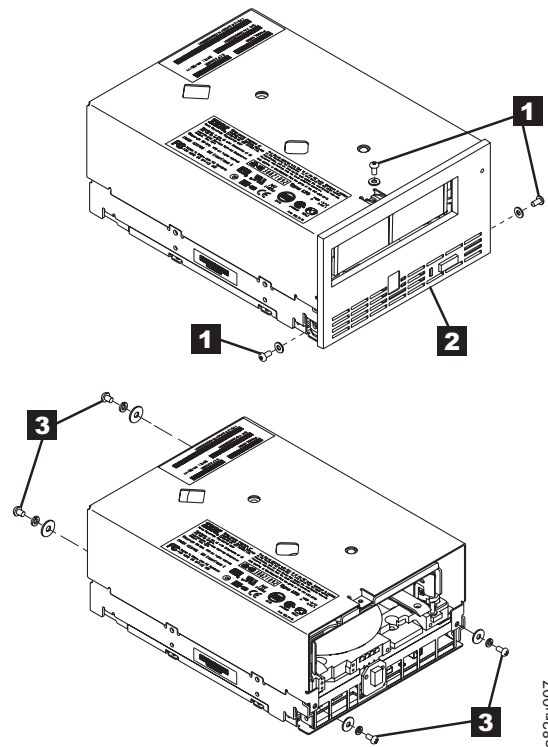

Figure 8-121. Removing the cover from the internal drive
- a. Using a Phillips screwdriver, remove the three screws and washers (see **1** in Figure 8-121 on page 8-114) that secure the bezel (see **2**) to the internal drive, then remove the bezel.